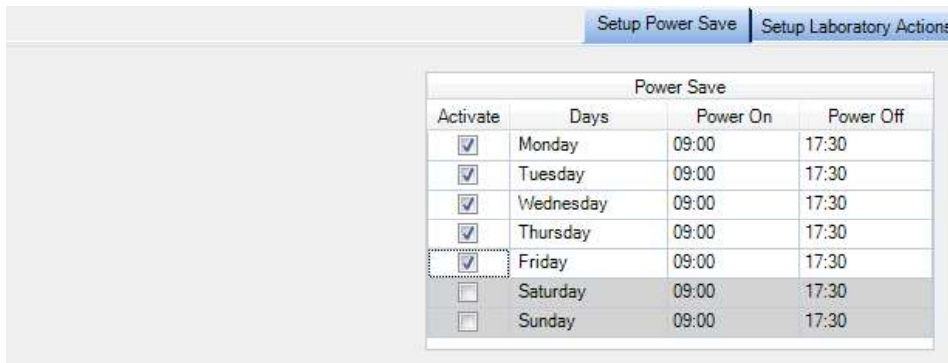

Figure 74 Setup Power Save tab
- Select **Laboratory Scheduler** from the Setup menu, and then select the Setup Power Save tab (Figure 74).